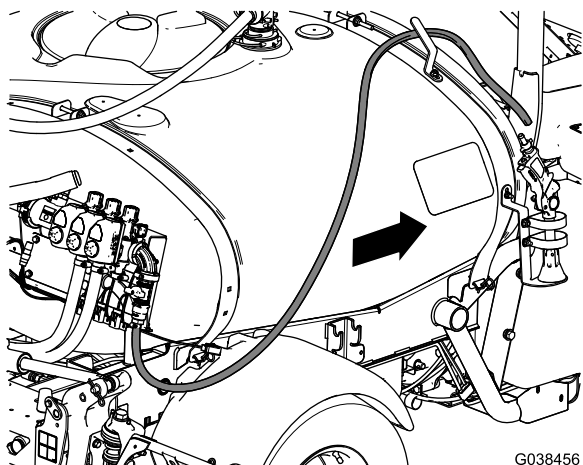

Figure 93
6. Route the supply hose forward along the sprayer tank toward the spray-gun bracket, and secure the hose to the tank frame with the 3 cable ties (Figure 93).